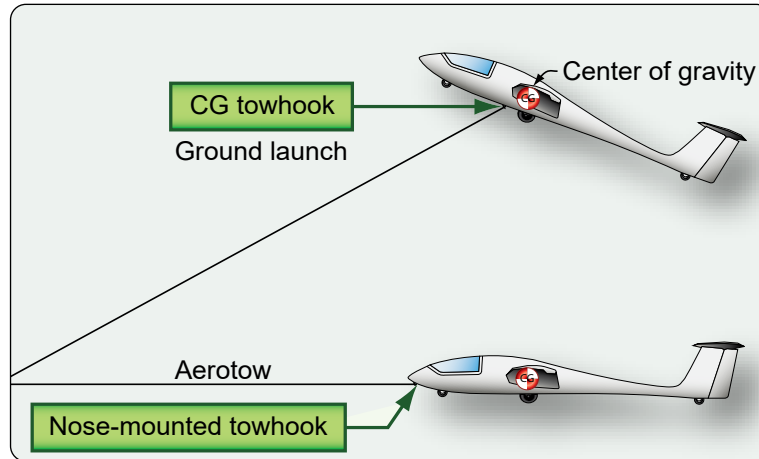

Figure 2-8. Tow hook locations.
Gliders that launch using a tow have an approved towhook. For an aerotow, the crew normally connects the tow line to a towhook located on or just under the nose of the glider. For a tow using a winch or ground vehicle, the crew attaches the tow line to a towhook positioned below the glider center of gravity (CG)—the point where the glider would balance on the ground if lifted from above or below that position. [Figure 2-8]. Both towhook designs allow for quick release of the rope or cable when the glider pilot pulls the release handle. An aerotow launch of a glider using a specific towhook may only occur if the Glider Flight Manual/Pilot's Operating Handbook approves the procedure.